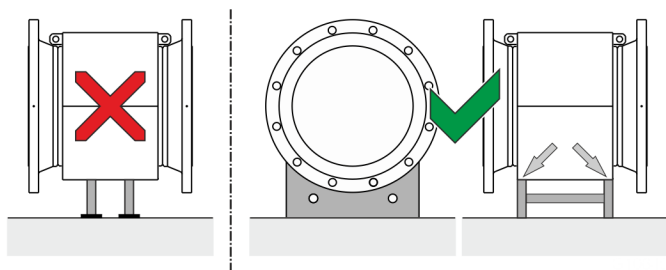

Figure 8: Support for nominal diameters greater than DN 400
- Place the supports at the edge of the sensor housing (see arrows in **Figure 8**).